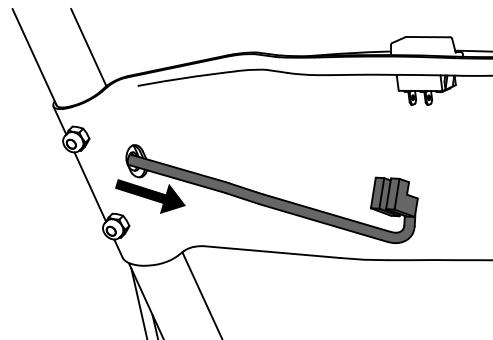

Figure 14
2. Install the middle dash panel. Route the engine switch cable through the hole on the left side of the panel as shown in Figure 14.